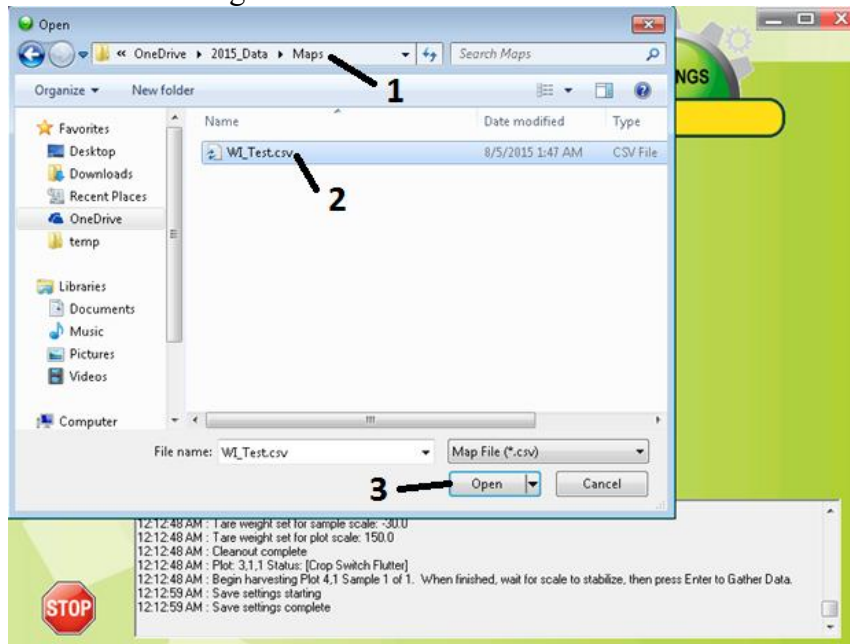

Figure 32. Import Map Function
- C. Locate the map file (CSV) to import. See Figure 32.